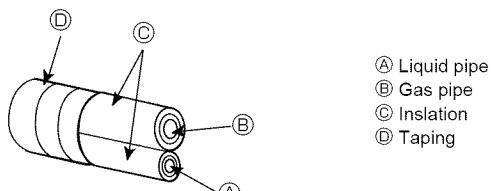
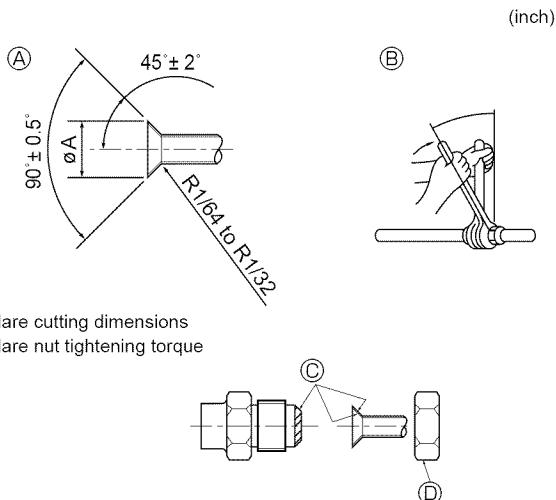

Fig. 4-1
Fig. 4-2
Ⓐ (Fig. 4-1)
Ⓑ (Fig. 4-1)
4.2. Connecting pipes (Fig. 4-1) (Fig. 4-2)
When commercially available copper pipes are used, insulate both the liquid and gas pipes separately with commercially available insulation materials (heat-resistant to 100 °C, 212 °F or more, thickness of 12 mm, 1/2 inch or more). (Fig. 4-1)
[Fig. 4-2]